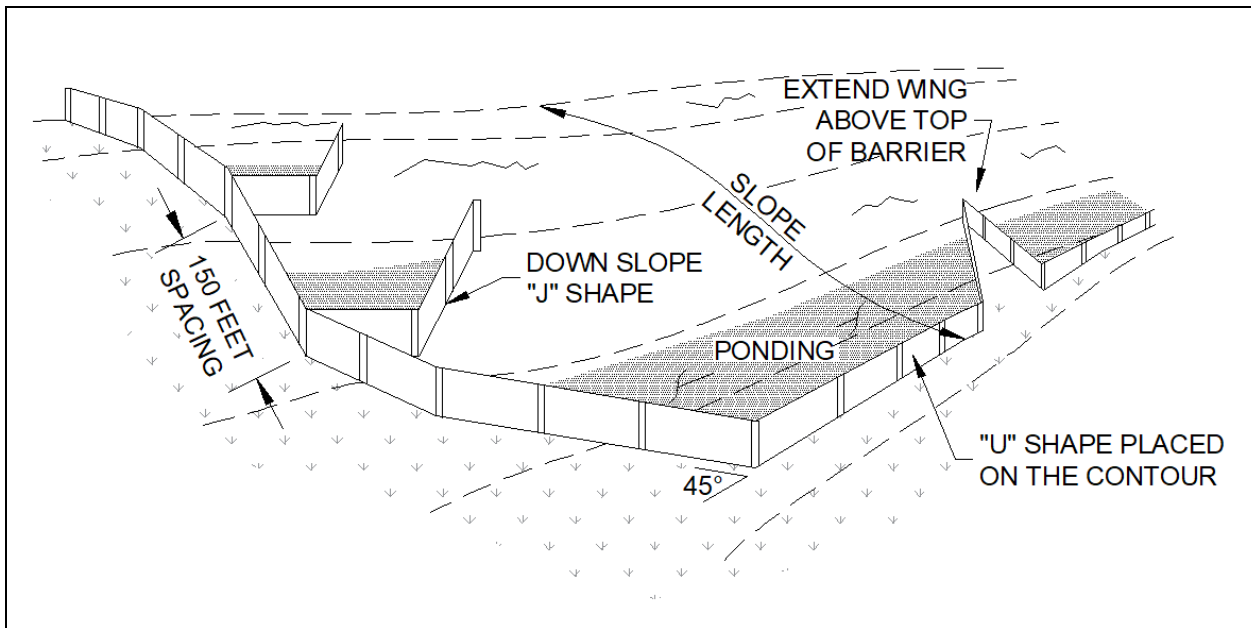

Figure 7.3.1 Illustration of Sediment Barriers Placed on the Contour Using “U” and “J” Shapes
4. have both ends extended upslope to prevent flow around the barrier (see Figure 7.3.1).
Extend the ends of the barrier upslope at a 45-degree angle from the primary alignment to form the “U” or “J” as illustrated in Figure 7.3.1. Where feasible, ensure the bottom of the terminal ends are higher in elevation than the top of the portion along the contour. Break long barrier runs into U-shaped segments with a maximum length of 300 feet to better pond runoff, disperse flow, and limit the impacts should the barrier fail.